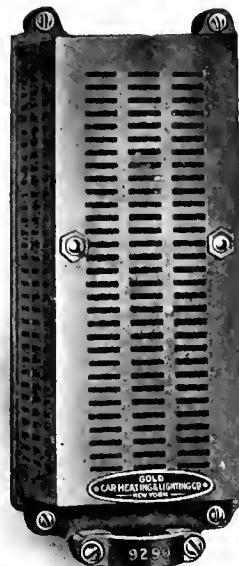

FIG. 1. ELECTRIC THERMOSTAT.
The system comprises two special devices—an electric thermostat operating contacts by the expansion and contraction of a temperature, as shown in Fig. 1, and an electro-magnetic valve, Fig. 2. The thermostat is usually placed in a con-
- (a) Lay the subject on his belly, with arms extended as straight forward as possible and with face to one side, so that nose and mouth are free for breathing (see Fig. 1). Let an assistant draw forward the subject's tongue.
- (b) Kneel straddling the subject's thighs, and facing his head; rest the palms of your hands on the loins (on the muscles of the small of the back), with fingers spread over the lowest ribs, as in Fig. 1.